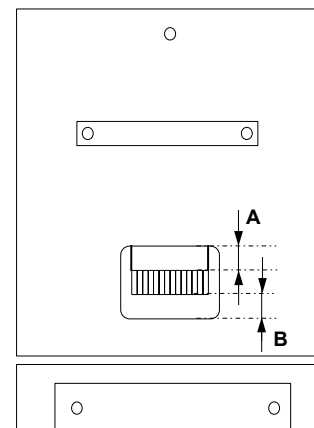

Figure 27: Lamp Adjustment
6. Look perpendicular onto the mirror and check visually, that the filaments of the lamp are correctly positioned (A = B), see Figure 27 page 45.